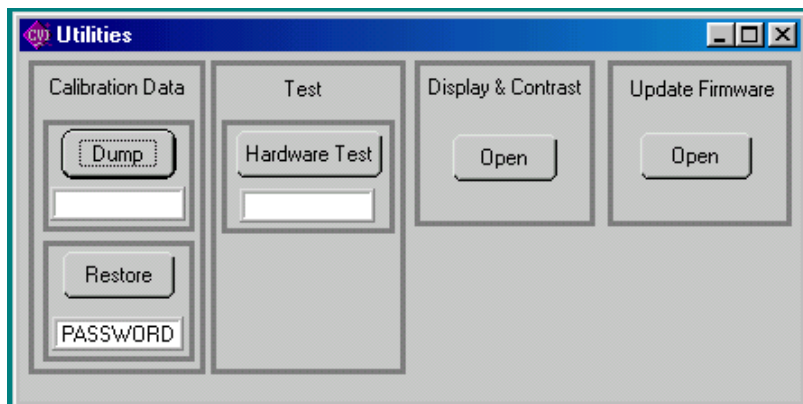

FIGURE 15. UTILITIES WINDOW
2.2.13 The **Utilities** button opens the Utilities window (Figure 15). The Calibration Data **Dump** button allows calibration data in hex format to be sent to the host computer via the GPIB. If the correct password is entered, the calibration Data **Restore** button allows the unit to accept previously dumped calibration data and replace the Factory, Working, or Prior calibration.